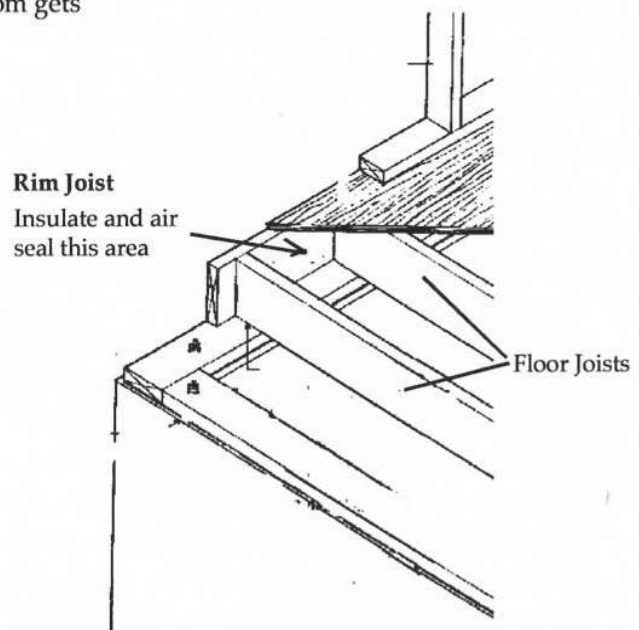

Figure 6: Cut-away view of top of basement wall, looking down from first floor
- **Rim joist area (Figure 6)**